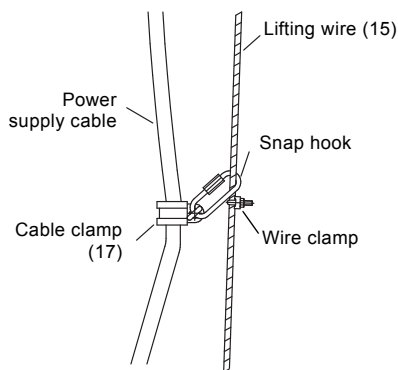

Fig. 24 Attaching the cable to the wire
16. Fix the power supply cable to the lifting wire by means of a cable clamp approx. 0.8 m above the flowmaker. This will prevent the cable from falling down and becoming entangled in the propeller during operation. Connect the cable clamp to the lifting wire above the wire clamp by means of a snap hook. See fig. 24. Attach the power supply cable to the lifting wire by means of cable clamps placed at 1 m intervals.